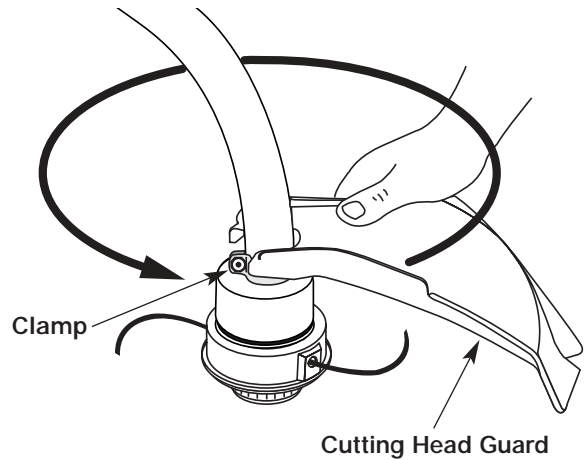

FIGURE 3
1. Place the cutting head guard onto the shaft tube above the clamp assembly, Figure 3.
2. Push the cutting guard down to the top of the cutting head assembly and then rotate the cutting head guard until the screw holes align and the guard fits into the recessed pocket, Figure 3.